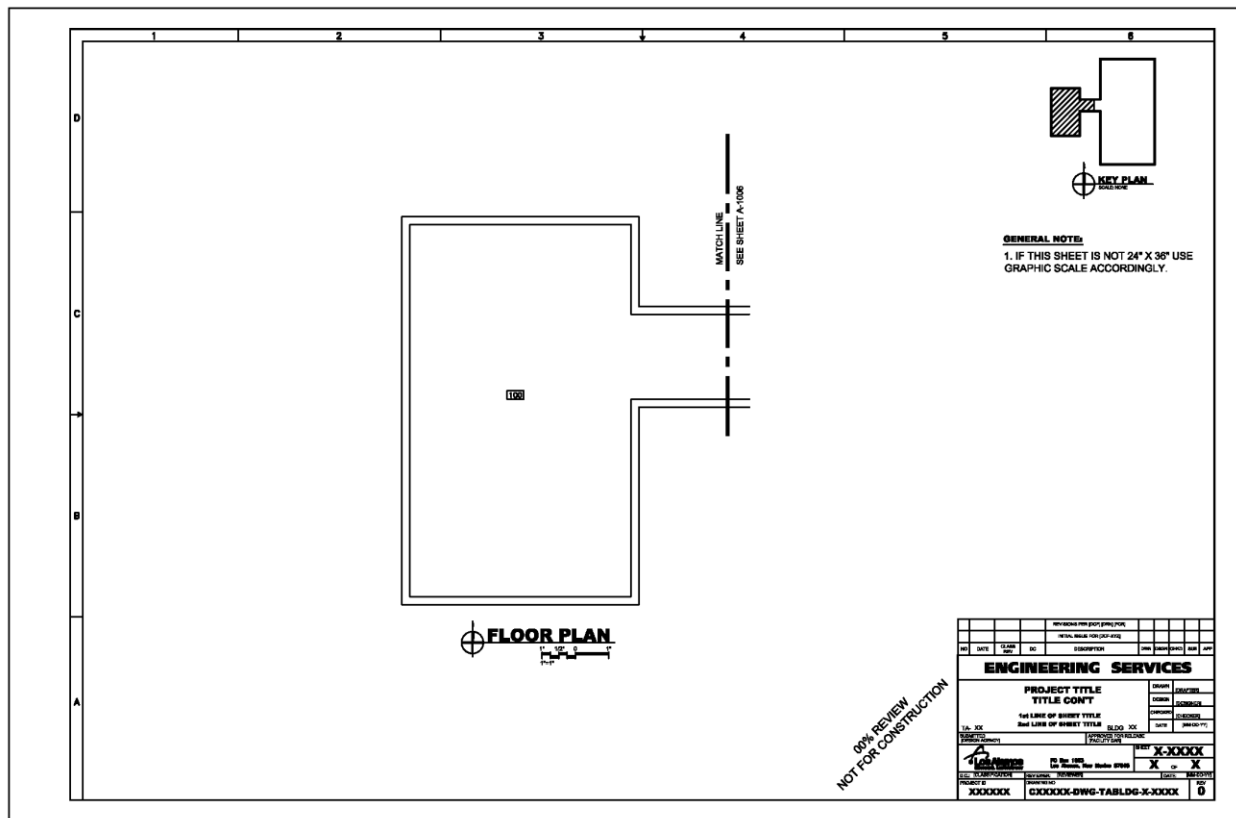

Figure 206-2. Match Lines and Key Plan
- D. Use a key plan (see Figure 206-2 below).